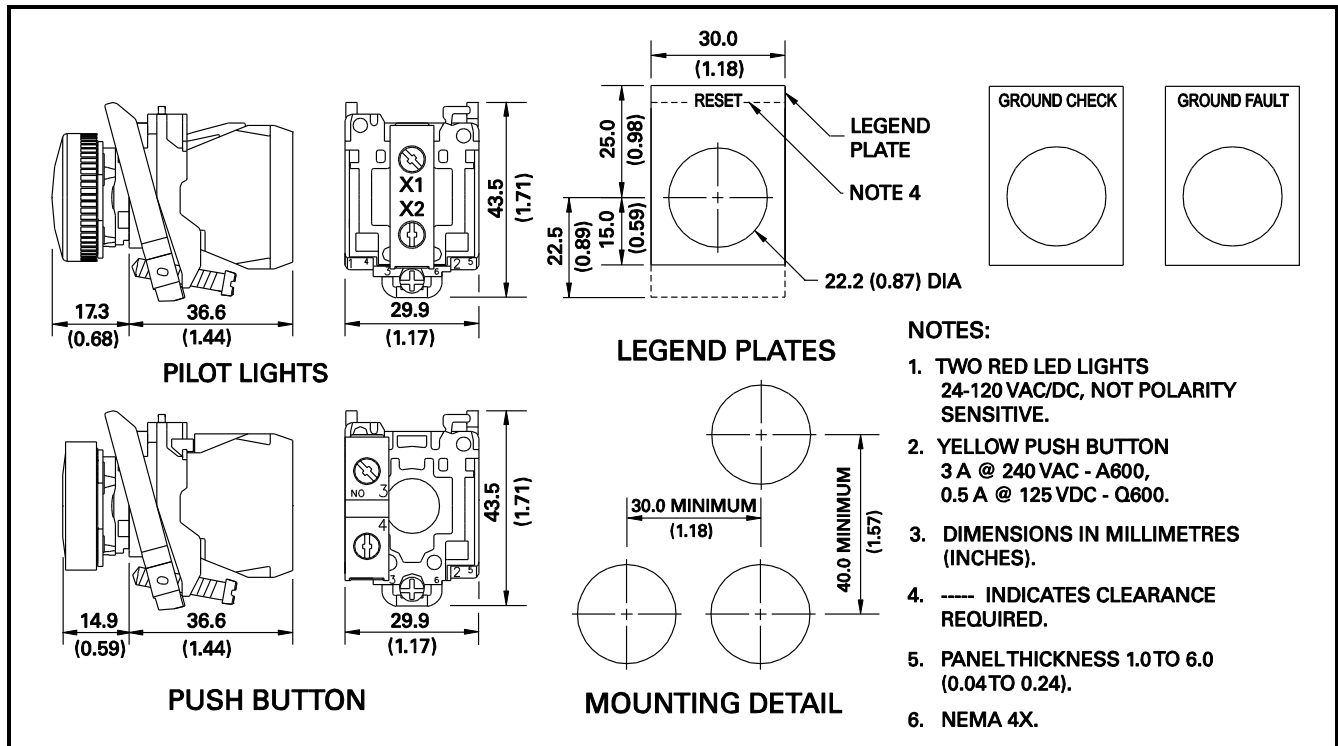

FIGURE 9. RK-132 Remote Indication and Reset Kit.
The optional RK-132 Remote Kit is shown in Fig. 9. Connect terminals of the green ground-check indicator to SE-134C terminals 26 and 27 and the red ground-fault indicator to terminals 19 and 21. For remote reset, connect the normally open push-button switch across terminals 9 and 10.
3. EXTERNAL LIGHTS AND SWITCHES NOT INCLUDED WITH SE-134C. OPTIONAL RK-132 REMOTE INDICATION AND RESET KIT AVAILABLE. SEE FIG. 9 AND ORDERING INFORMATION FOR DETAILS.